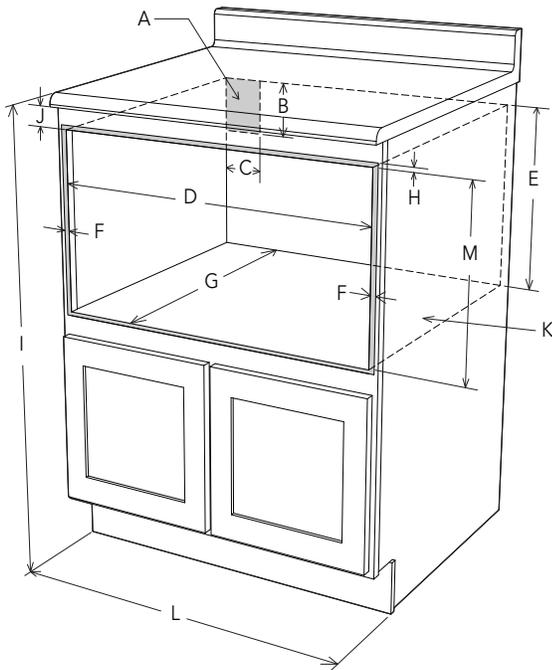

Figure 1
- Use the dimensions shown in Figure 1. Given dimensions provide minimum clearance. Locate electrical outlet in the shaded area in the upper left-hand corner of the cutout. See Figure 9.
Figures 1 and 2 contain many Convection DrawerMicro oven measurements for reference when planning the drawer's location.